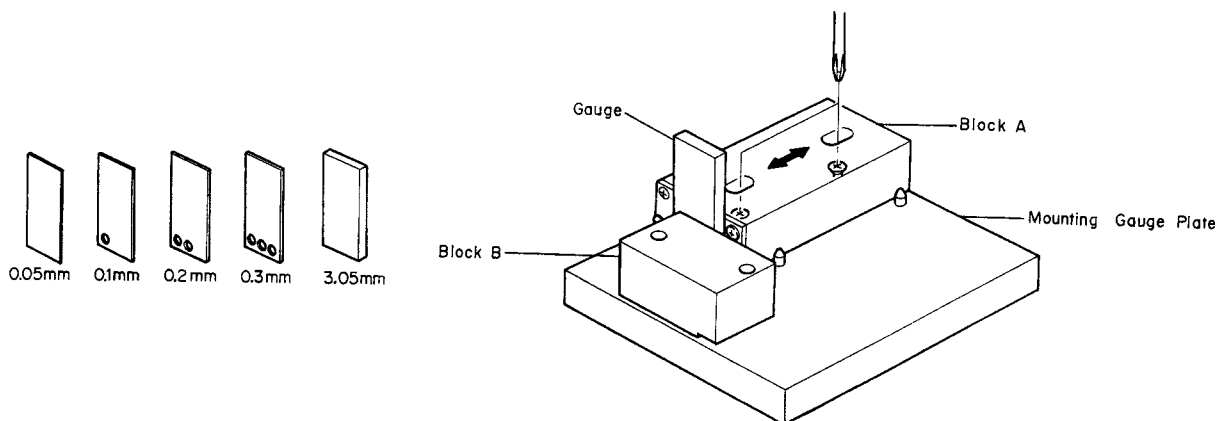
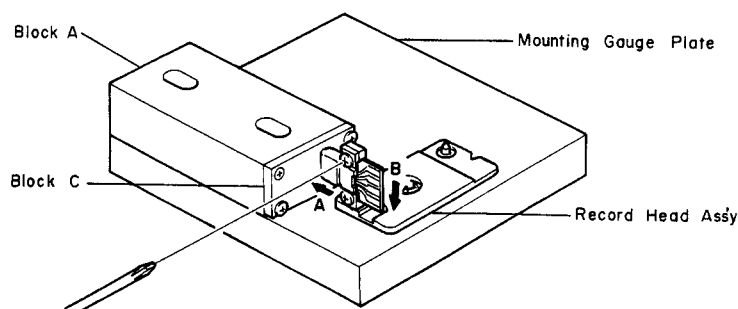

Fig. 4.21
Fig. 4.22
Refer to Figs. 4.21 and 4.22.
- (1) Check the accuracy of the record head stroke.
- (2) Remove Head Mount Base Ass'y referring to item 2.30.
- (3) Remove the record head assembly.
- (4) Adjustment of Record Head Mounting Gauge M-9048 (DA09048A)
- (c) As shown in Fig. 4.21 hold the Gauges (3.05 mm and either one of 0.05, 0.15, 0.2, 0.25, 0.3 or 0.35 mm thickness) between the Block A and Block B, fix the Block A with screw, pushing the Block A to the 2 guide pins.
- (5) Remove the Block B from the Mounting Gauge Plate.
- (6) As shown in Fig. 4.22, mount the R-8L record head assembly onto the Mounting Gauge Plate, then check the location of the R-8L record head surface. (If record head contacts to the Block C, loosen 2 pcs. of screws that assembled record head and R-8L record head assembly, then place the R-8L record head assembly onto the Plate.)
- (7) Remove the R-8L record head assembly from the Mounting Gauge Plate.
- (8) Readjustment of Record Head Mounting Gauge M-9048 (DA09048A)
- (9) Remove the Block B from the Mounting Gauge Plate.
- (10) Mount the R-8L record head assembly onto the Mounting Gauge Plate.
- (11) As shown in the Fig. 4.22, loosen the R-8L record head with 2 pcs. of screws onto the record head plate. As the location of the Block A is secured by the item (8)-(c), push the record head to the directions A and B, then tighten 2 pcs. of screws.
- (12) Check to insure freedom from gap between the Block C and record head surface, then tighten the 2 pcs. of screws on the record head plate with lock tight paint.
- (13) Assemble the record head assembly to the head mount base assembly.
- (14) Assemble the head mount base assembly to the mechanism assembly.
- (15) Check the record head stroke.
- If the above are inaccurate, items (1) through (15) will have to be repeated till satisfactory results are obtained.